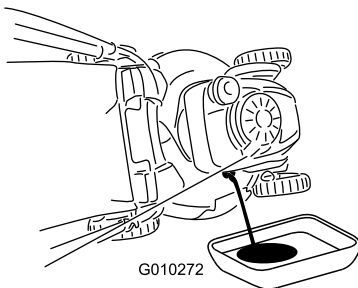

Figure 25
- Tip the machine onto its side, with the dipstick down, to drain the used oil out through the oil-fill tube into an oil drain pan (Figure 25).